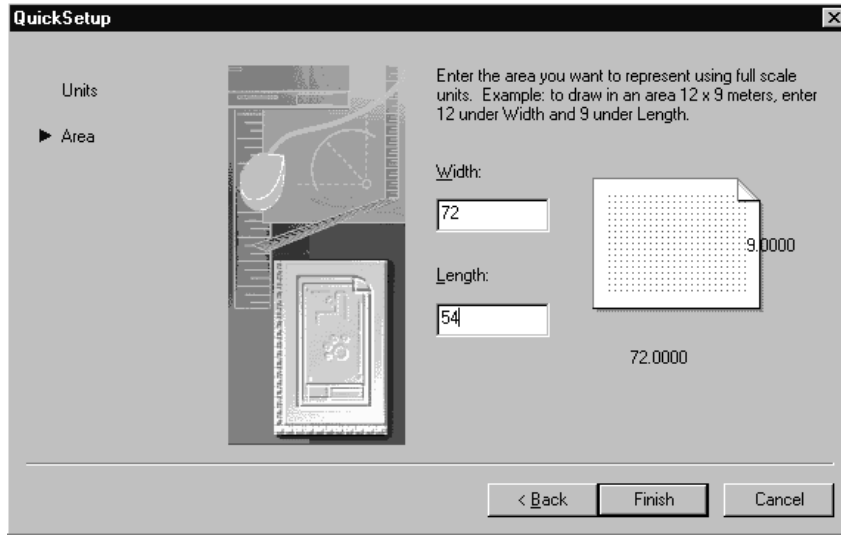

Figure 5-21
3. The last setup prompts are for the size of the drawing screen. The defaults are Width = 12" and Height = 9". Change these to Width = **72"** and Height = **54"** as shown in Figure 5-21. Then pick the **Finish** button.